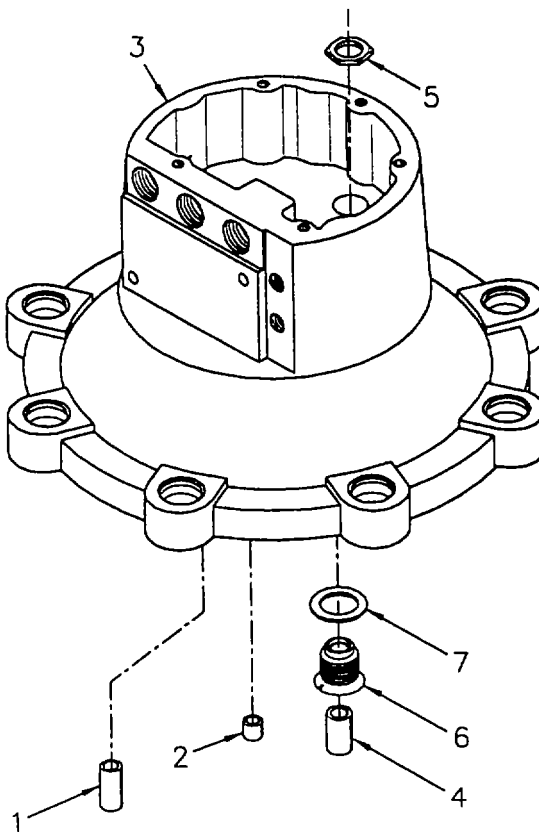
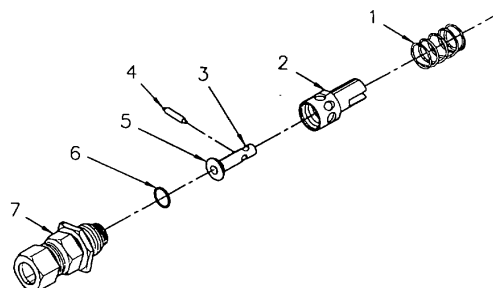

Figure 5-8. Upper Case Bearings
Figure 5-9. R-Valve Assembly
- (h) Remove plug cock (8) and input gear A (7).
- (i) Remove bushings (9) by using an appropriate punch to drive the bearing out. Discard old bearing.
- (j) Remove bearing (10) by using a 1/4-20 bottoming tap. Tap through bearing. When tap reaches bottom bearing (10) will begin to back out. Discard old bearing.
- (k) Remove bearing (11) by using a 5/16-18 bottoming tap. Tap through bearing. When the tap reaches bottom the bearing (11) will begin to back out. Discard old bearing.
- (l) Remove bearing (1, Figure 5-8) and bearing (2) by using a 5/16-18 bottoming tap. Tap through the bearing when the tap reaches bottom the bearing will start to back out. Discard old bearing.
- (m) Remove bushing (4) by using an appropriate punch to drive bushing out.
- (n) Remove locking nut (5), packing gland (6), and gasket (7).
- (3) Disassemble R-valve assembly.
- (a) Compress spring (1, Figure 5-9) remove pin (4) and spring (1).
- (1) Assemble R-valve assembly.
- (a) Install piston (5, Figure 5-9) into cylinder (2), position preformed packing (6) on piston head.
- (b) Screw cylinder (2) onto body (7), hand tighten.
- (c) Align outermost hole (3) on piston shaft (5) with slot in cylinder (2).
- (d) Install spring (1) over cylinder (2). While compressing spring (1), install pin (4) in outermost hole (3) on piston shaft (5).
- (2) Assemble upper main case.
- (a) Install gasket (7, Figure 5-8) onto packing gland (6). Insert packing gland thru upper main case housing (3) and secure with locking nut (5).
- (b) Install bushing (4, Figure 5-8) into packing gland (6) using an appropriate punch. Bushing is properly installed when it does not protrude from either end.
- (c) Install bearings (1 and 2, Figure 5-8) into main case (3) by tapping gently into place with rubber mallet or similar device until bearings bottom out. Take care not to force bushing or burr edges.
- (3) Assemble gear kit into main case.